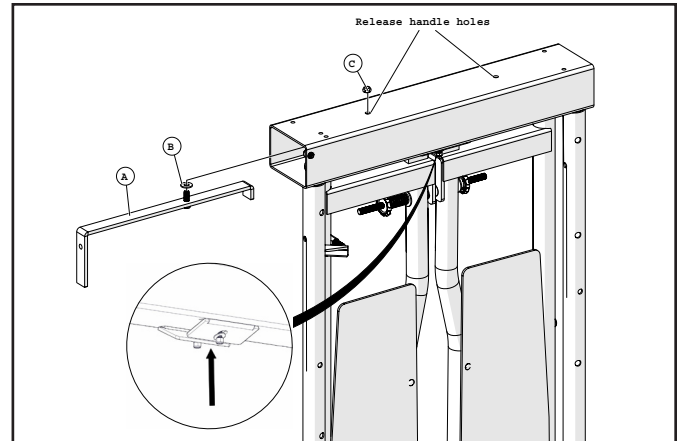

Figure 1: Installing the release handle
1. The Automatic Headgate comes with the release handle (a) un-installed (Figure 1).
3. To install the handle (a), place 1/2" flat washer (b) over the threaded stud and insert the stud through one of the release handle holes as shown (Figure 1).
4. Secure the handle by threading a 1/2" steel lock nut (c) onto the stud as shown (Figure 1). Be sure to keep the nut loose enough to allow the handle to rotate properly.
5. You may have to press the door latch trippers up as shown (Figure 1) to slide the handle between them.